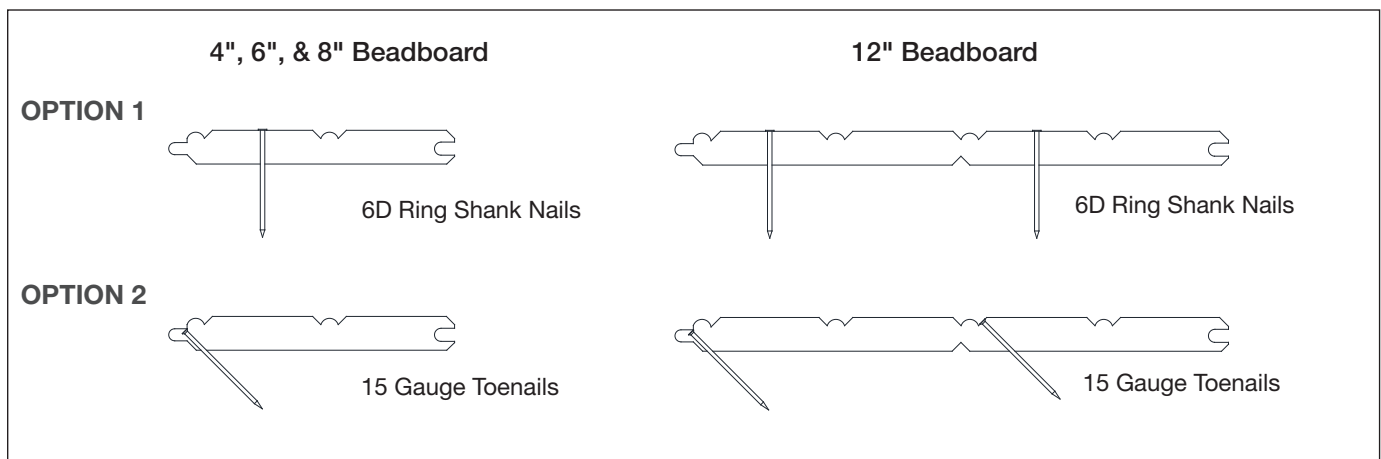

Fig. 49
- Always stagger your butt joints over the stud locations (**Fig. 49**)